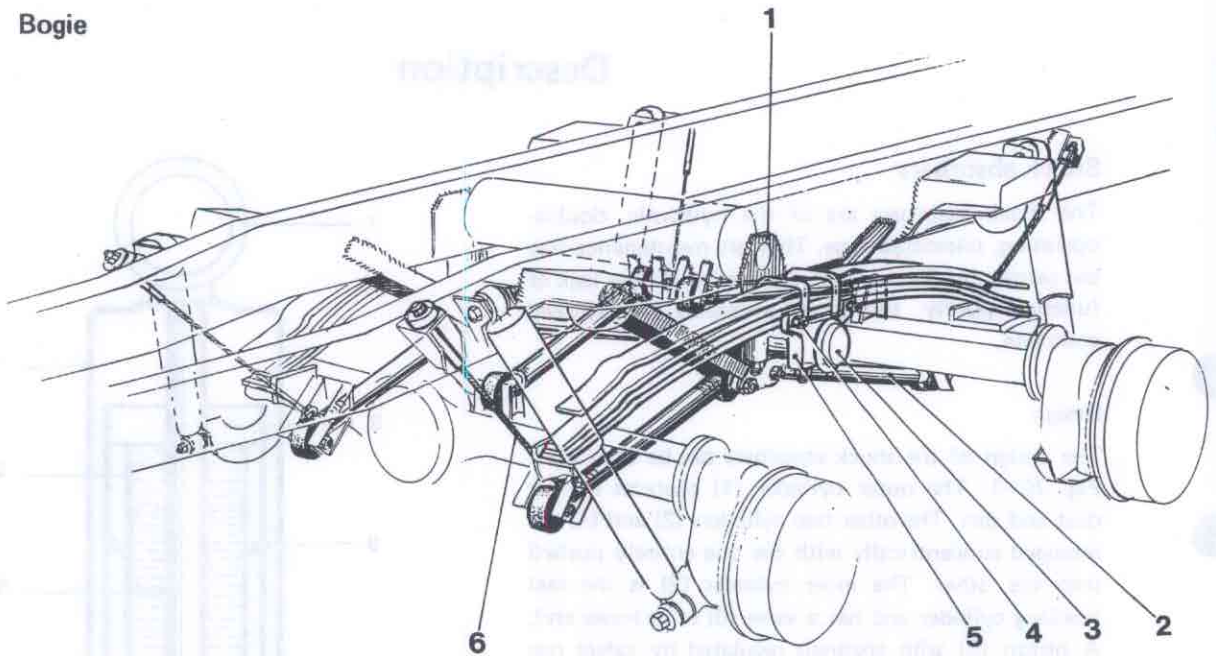
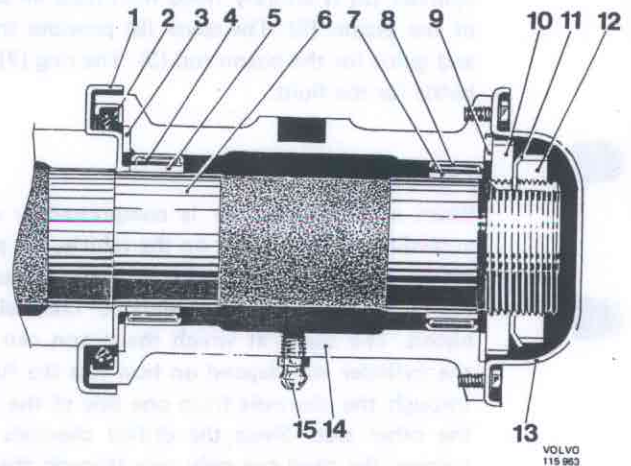

Fig. 76-2. Bogie
Fig. 76-3. Cradle journalling
The cradle (5, Fig. 76-2) is journalled on the bogie attachment's (1) journal pin with needle bearings (4 and 8, Fig. 76-3) for radial forces and with synthetic thrust washers (3 and 9) for axial forces. Axial clearance is adjusted with the help of the nut (10).
3. Screw off the cover (13, Fig. 76-3).